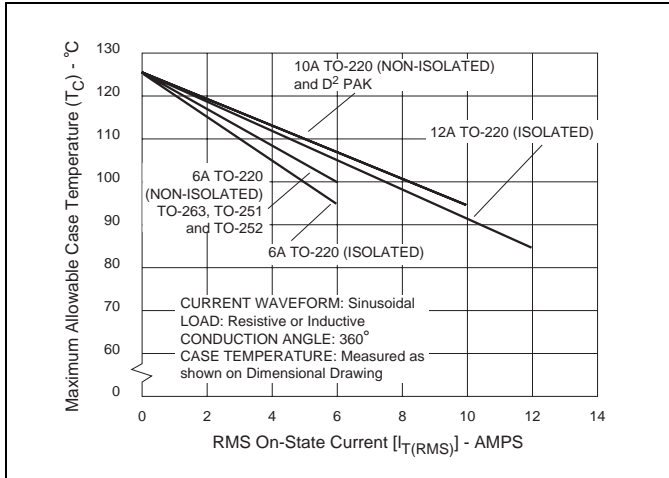
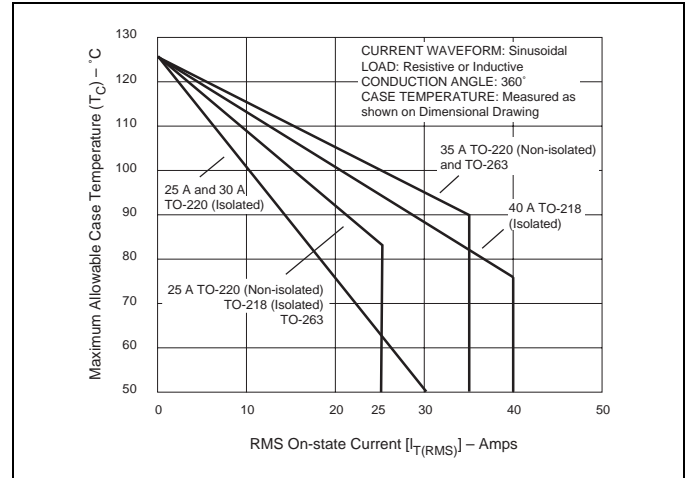
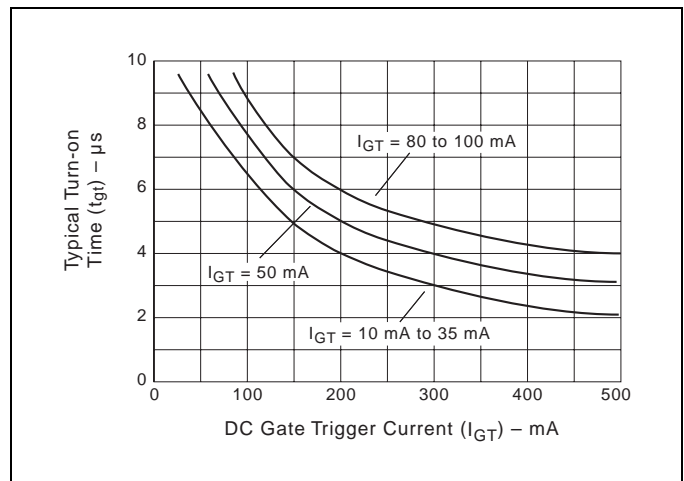

Figure E4.1 Maximum Allowable Case Temperature versus On-state Current (6 A to 12 A)
Figure E4.4 Maximum Allowable Case Temperature versus On-state Current (25 A to 40 A)
Figure E4.12 Turn-on Time versus Gate Trigger Current (Typical)
- (1) For either polarity of MT2 with reference to MT1 terminal
- (2) For either polarity of gate voltage (V_{GT}) with reference to MT1 terminal
- (3) See Gate Characteristics and Definition of Quadrants.
- (4) See Figure E4.1 through Figure E4.4 for current rating at specific operating temperature and Figure 4.16 for free air rating (no heat sink).
- (10) See Figure E4.12 for t_{gt} versus I_{GT} .
- (11) See package outlines for lead form configurations. When ordering special lead forming, add type number as suffix to part number.
- (12) Initial on-state current = 400 mA dc for 16 A to 40 A devices and 100 mA for 6 A to 12 A devices.
- (13) See Figure E4.1 through Figure E4.4 for maximum allowable case temperature at maximum rated current.
- (14) Pulse width $\leq 10 \mu s$; $I_{GT} \leq I_{GTM}$
- (15) For 6 A to 12 A devices, $R_L = 60 \Omega$; 16 A and above, $R_L = 30 \Omega$
- (16) 40 A pin terminal leads on K package can run 100 °C to 125 °C.
- (17) Alternistor does not turn on in Quadrant IV.
- (18) $T_C = T_J$ for test conditions in off state
- (19) $I_{GT} = 200 \text{ mA}$ for 6 A to 12 A devices and 500 mA for 16 A to 40 A devices with gate pulse having rise time of $\leq 0.1 \mu s$.
- (20) Minimum non-trigger V_{GT} at 125 °C is 0.2 V.